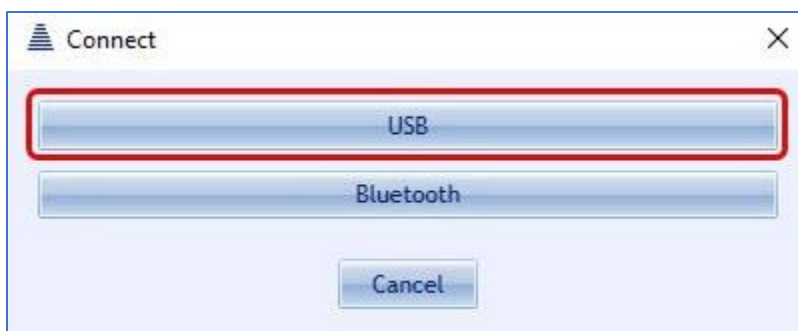

Figure SOP 24.13. The device menu in the FlowTracker2 software
4. In the software, click the “Device” button in the top-left corner (Figure SOP 24.12) then click the “USB” button to connect to the handheld (Figure SOP 24.13).